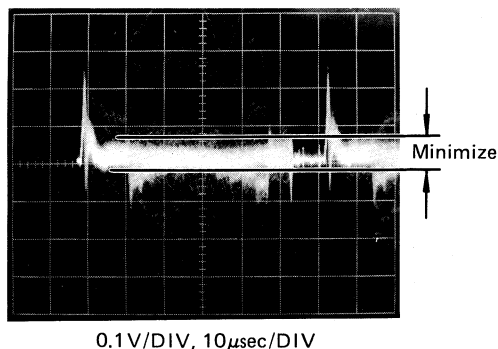

Fig. 4-2-46
- Adjust B TRACKING-1 VR7 so that the B-YL signal becomes minimum. (Fig. 4-2-46)